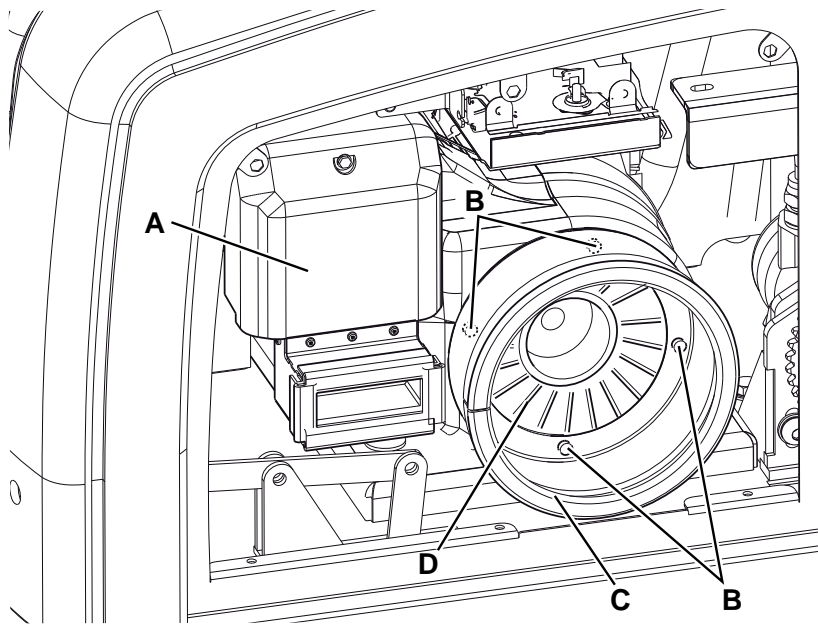

Figure 28
2. Engage the parking brake with the pedal (82) and the lever (75).
3. Turn the ignition key (69) to "0".
4. Remove the screws (48), then disengage the fasteners (49) to remove the left side bulkhead (47).
5. Clean the engine air pre-filter and/or service the air filter element (A, Fig. 28), as shown in the Petrol Engine Manual.
6. Install the left side bulkhead (47).
5. Remove the screws (B, Fig. 28), then remove the air deflector (C).
6. Clean the engine cooling system (D), as shown in the Petrol Engine Manual.
7. Install the left side bulkhead (47).